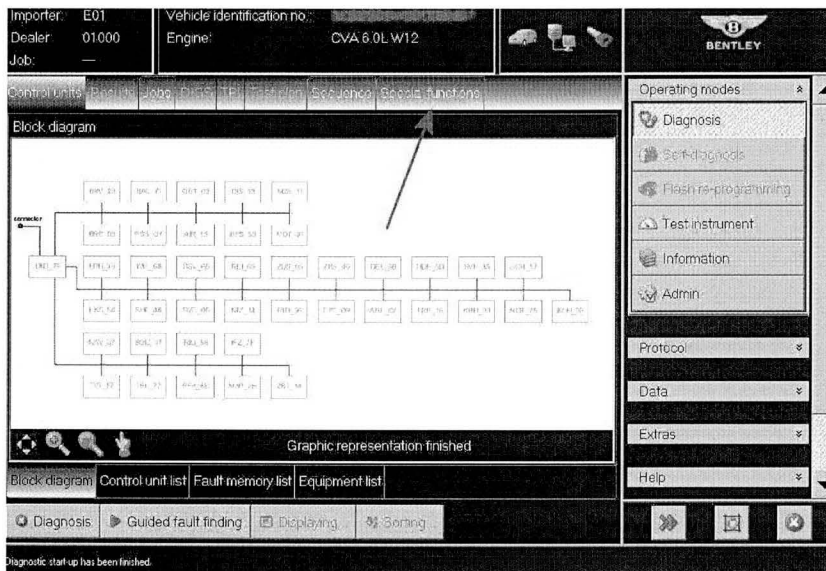

Figure 4
- Referring to Figure 4 select – Special functions